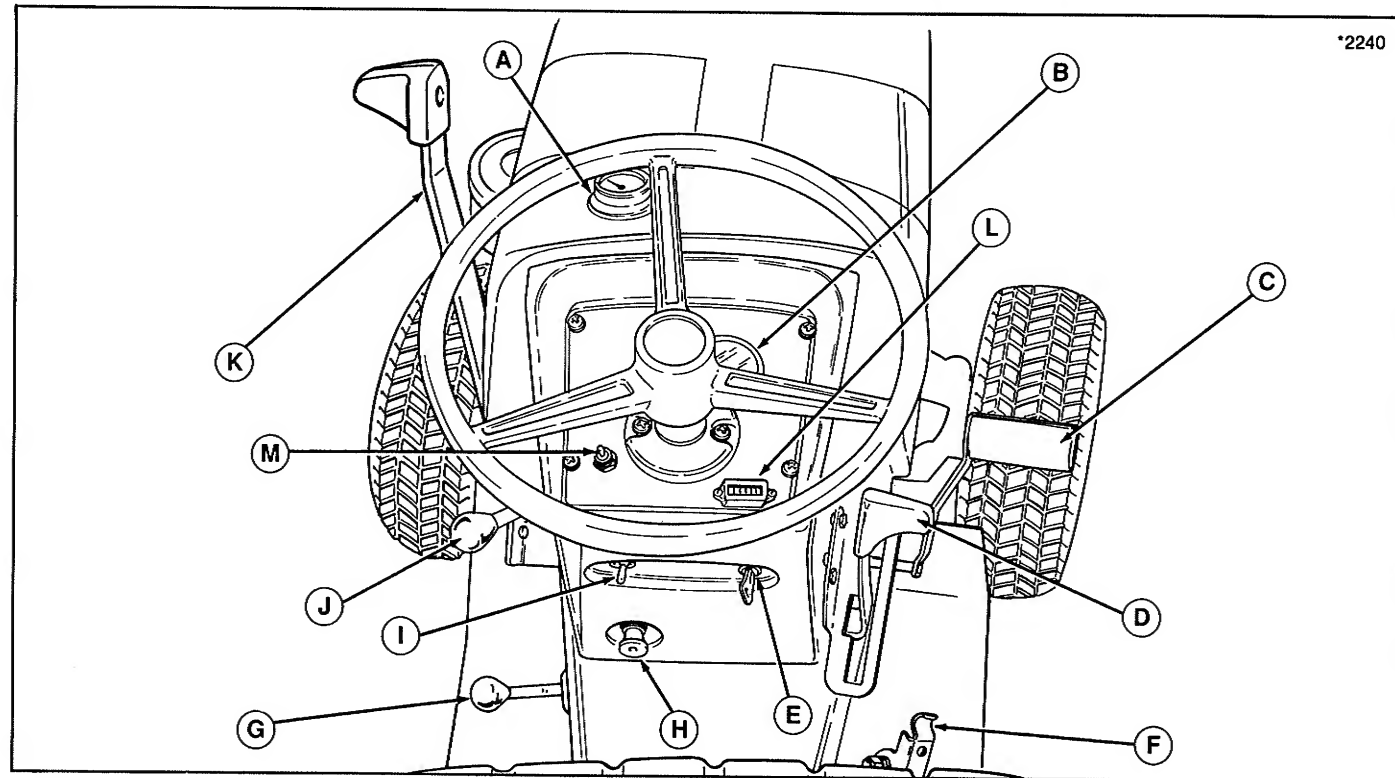

Figure 1. Controls
8. Place engine speed control lever to full throttle, especially if mowing thick grass. Ground speed can be controlled by placement of transmission lever (D, figure 1).
Refer to figure 3. Depressing pedal from position A to B disengages transmission drive belt and applies tractor brake. Parking brake lever is shown as F, figure 1.